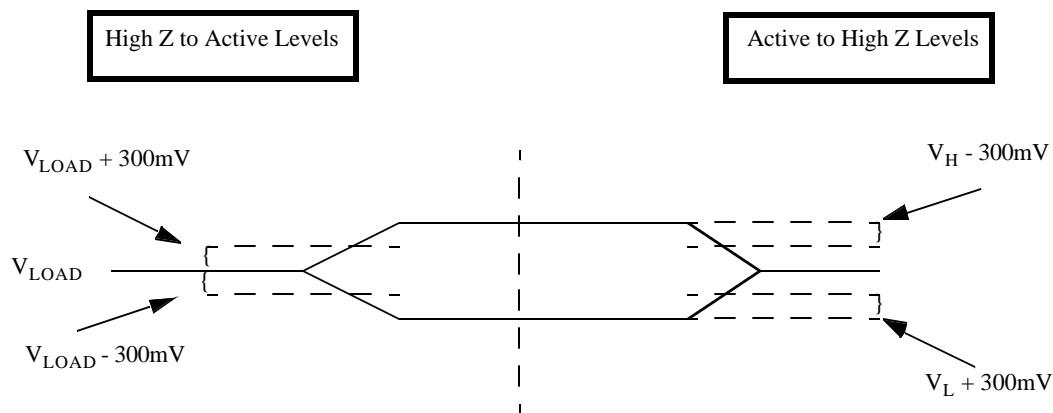

Figure 3. 3-Volt SRAM Loading
2. Three-state is defined as a 300mV change from steady-state output voltage (see Figure 3).
2. Three-state is defined as 300mV change from steady-state output voltage (see Figure 3).